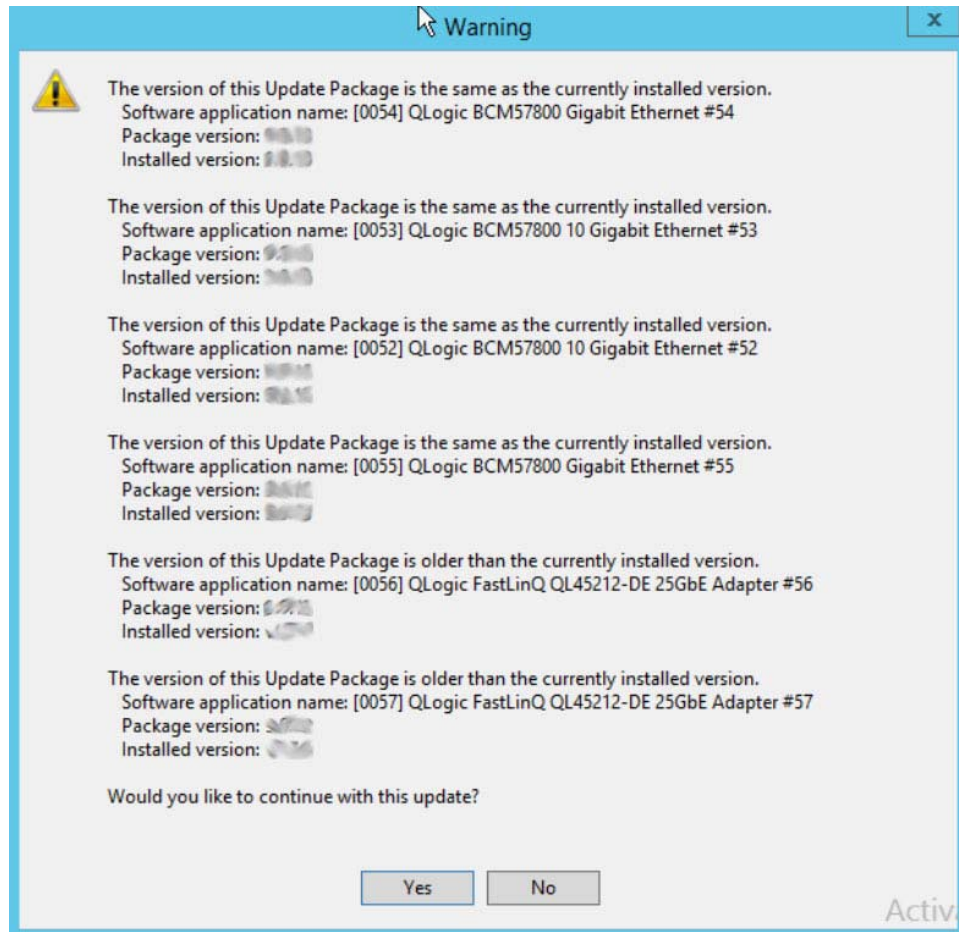

Figure 4-2. Dell Update Package: Continue Update
2. Follow the on-screen instructions. In the Warning dialog box, click **Yes** to continue the installation, as shown in Figure 4-2.